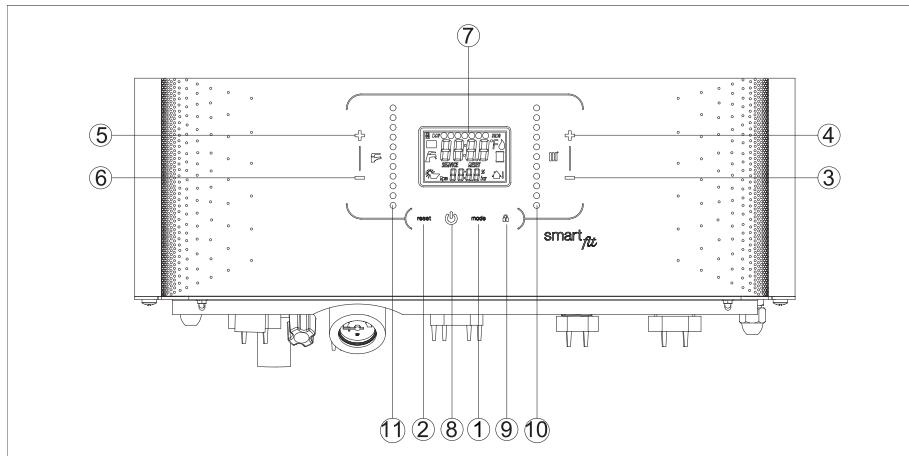

Figure 1. Control Panel
To operate your combi boiler in the “SUMMER” position, touch the button (1) (Figure 1) and see that only the tap symbol (faucet) lights up continuously on the display. In this position, the combi boiler will only operate for the domestic water system. The automatic ignition system will ignite the burner whenever domestic water is needed. The flame formation in the combustion chamber is indicated by (water drop) symbol on the display. When using domestic water, the tap symbol (faucet) on the display flashes.
To operate your combi boiler in the “WINTER” position, touch the button (1) (Figure 1) and see that the symbols of the tap (F) and radiator (III) light up continuously on the display. In this position, the combi boiler will work for domestic water and heater systems. The automatic ignition system will ignite the burner whenever domestic water or heating is needed. The flame formation in the combustion chamber is indicated by (flame) symbol on the display. On the display; the tap symbol (F), flashes when using domestic water, and the radiator symbol (III) flashes when the heater water is needed.
To operate your combi boiler in the “HEATING ONLY” position, press button (1) (Figure 1) and see that only the radiator (III) symbol lights up continuously on the display.
- When the device is energized, “OFF” will be displayed on the display. By touching the mode button (1) (Figure 1), you can switch between SUMMER-WINTER-HEATING ONLY-OFF positions, respectively.
- Check that there are no flashing digits on the display (7) (Figure 1) (see error codes). If the display (7) shows the error E04, this indicates that there is no water in the combi boiler. In this case, fill the system with water as described in “Section 2.6”.
The heating temperature is set by the buttons (3) and (4) (Figure 1).
- The heater set temperature is decreased by touching the button (3).
- The heater set temperature is increased by touching the button (4).
- The heater set temperature is increased or decreased by sliding the button (10).
The domestic water temperature is set by buttons (5) and (6) (Figure 1).
- The hot domestic water set temperature is increased by touching button (5).
- The hot domestic water set temperature is decreased by touching button (6).
- The domestic water set temperature is increased or decreased by sliding the button (11).
This section contains a list of error codes that may occur on the combi boiler's display (7) (see Figure 1), the relevant symptoms, and the actions the user can take to reset the combi boiler.
- Turn the device off and on again using the button (8) (Figure 1) on the control panel. Wait for the system to ignite, if the error E01 appears again, turn the device off and on once again. This is done to ensure that the gas in the pipes reaches the device.